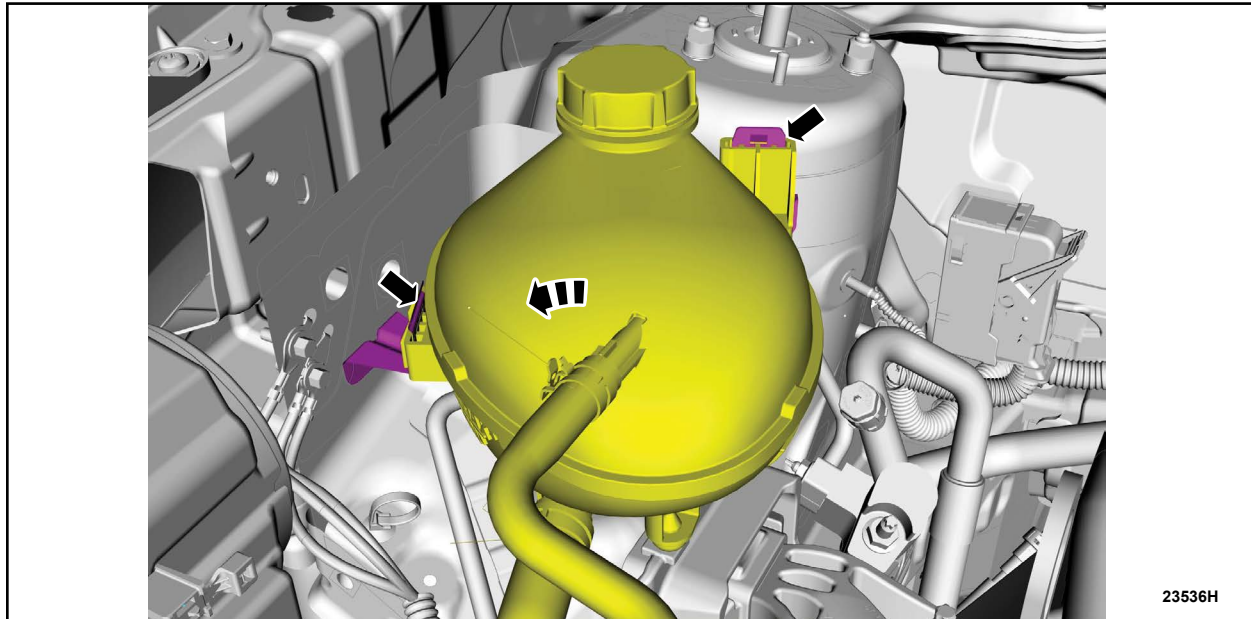

FIGURE 10
16. Release the tabs and position the degas bottle aside. See Figure 10.